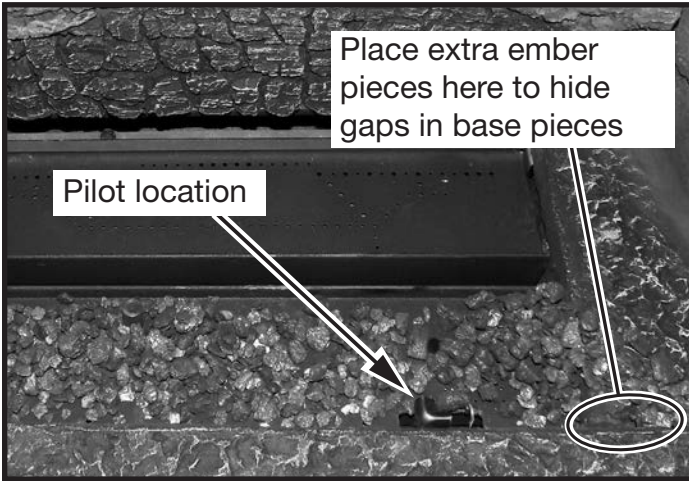
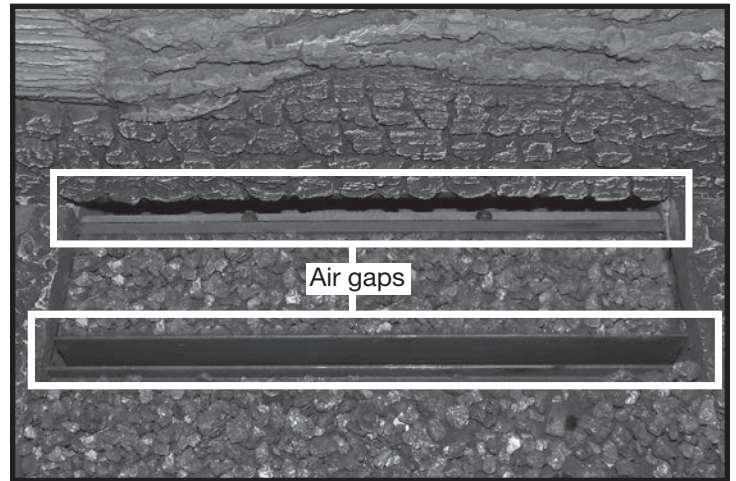

Figure 79: Ember pieces surrounding pilot.
Figure 80: Air gaps.
9. Distribute a thin layer of ember pieces (Figure 62) onto the front and rear burner trays (Figure 78). Place extra ember pieces on the thin, but noticeable gaps between the front base piece and the two side base pieces (Figure 79). Keep the ember pieces from interfering with the pilot assembly. Keep the ember pieces from falling into the air gaps between the front and rear burners and the gap between the rear burner and the air deflector which supports the first log (Figure 80).